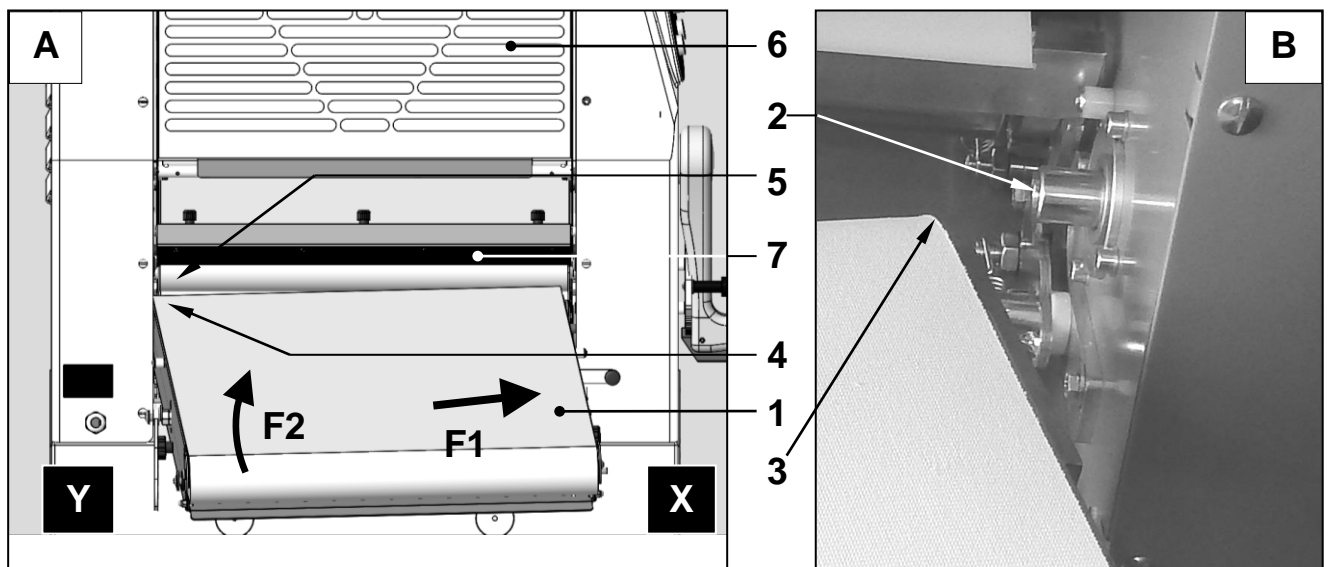

Fig. 4.2
With reference to Fig. 4.2, completely raise the guard ref. 6 (see also par. 4.5) from the side of the bench to be assembled (photo A) and remove the scraper ref. 7 (par. 7.3 and par. 7.3.2).